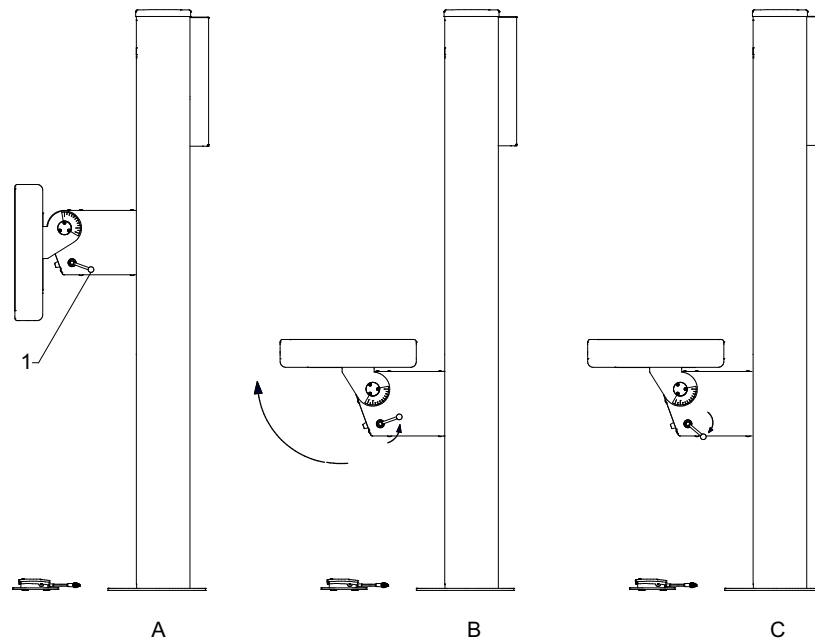

Fig. 4-21 Tilting detector holder
To position the handle (See pos.1 in **Fig. 4-21**, in its start position: